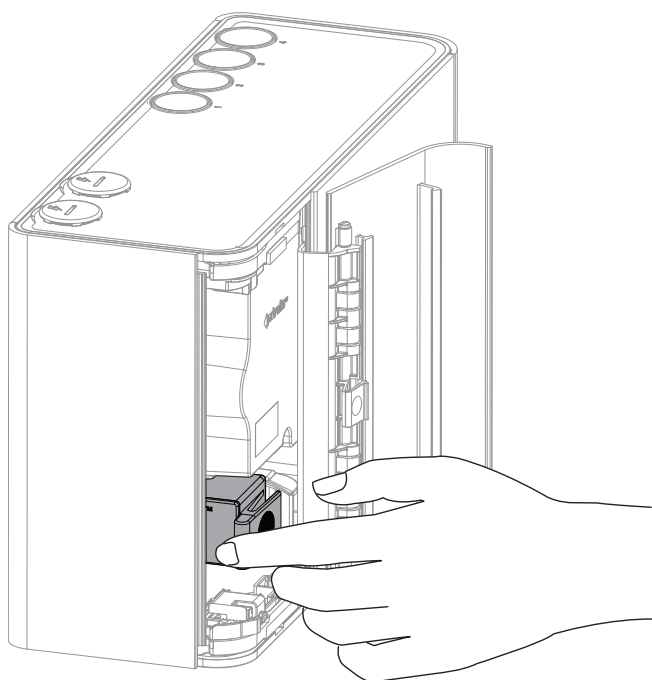

Figure 7-6: Reinstall the Filter
4. Firmly press, as shown in Figure 7-6, until the filter makes a distinct clicking sound and no additional movement is possible.